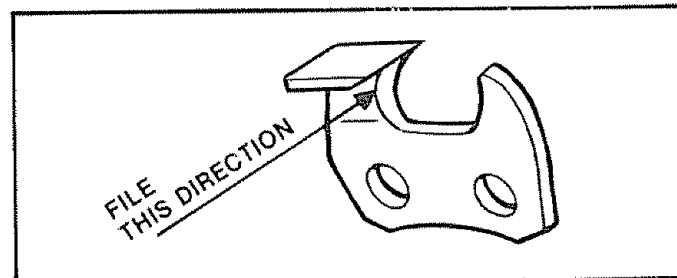

Figure 38
- c) File from inside toward outside of cutter, straight across, in one direction only. Use 2 or 3 strokes per cutting edge. Figure 38.